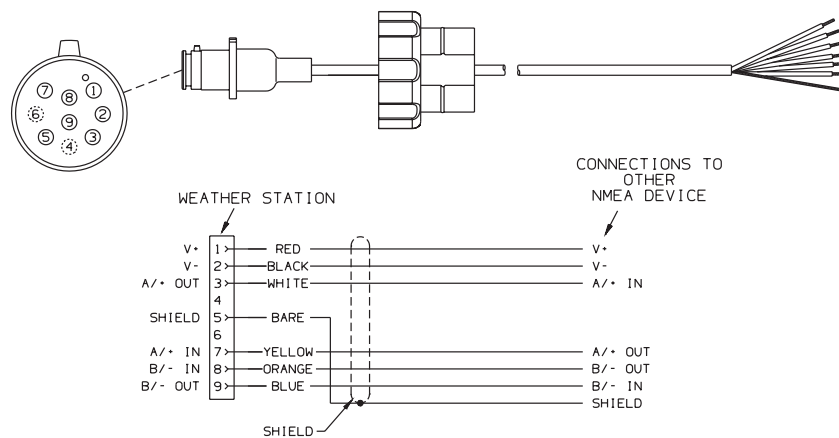

Figure 15. Wiring diagram to connect to a generic NMEA display
- **No connector**—If your WeatherStation does not have a connector on the display end, it *must* be hard wired. Follow “Guidelines for Making Connections” to prepare the cable. Refer to the owner’s manual that came with your display and connect the colored wires as shown in the table below and Figure 15.
6. Connect the wires to the power supply (see Figure 15).